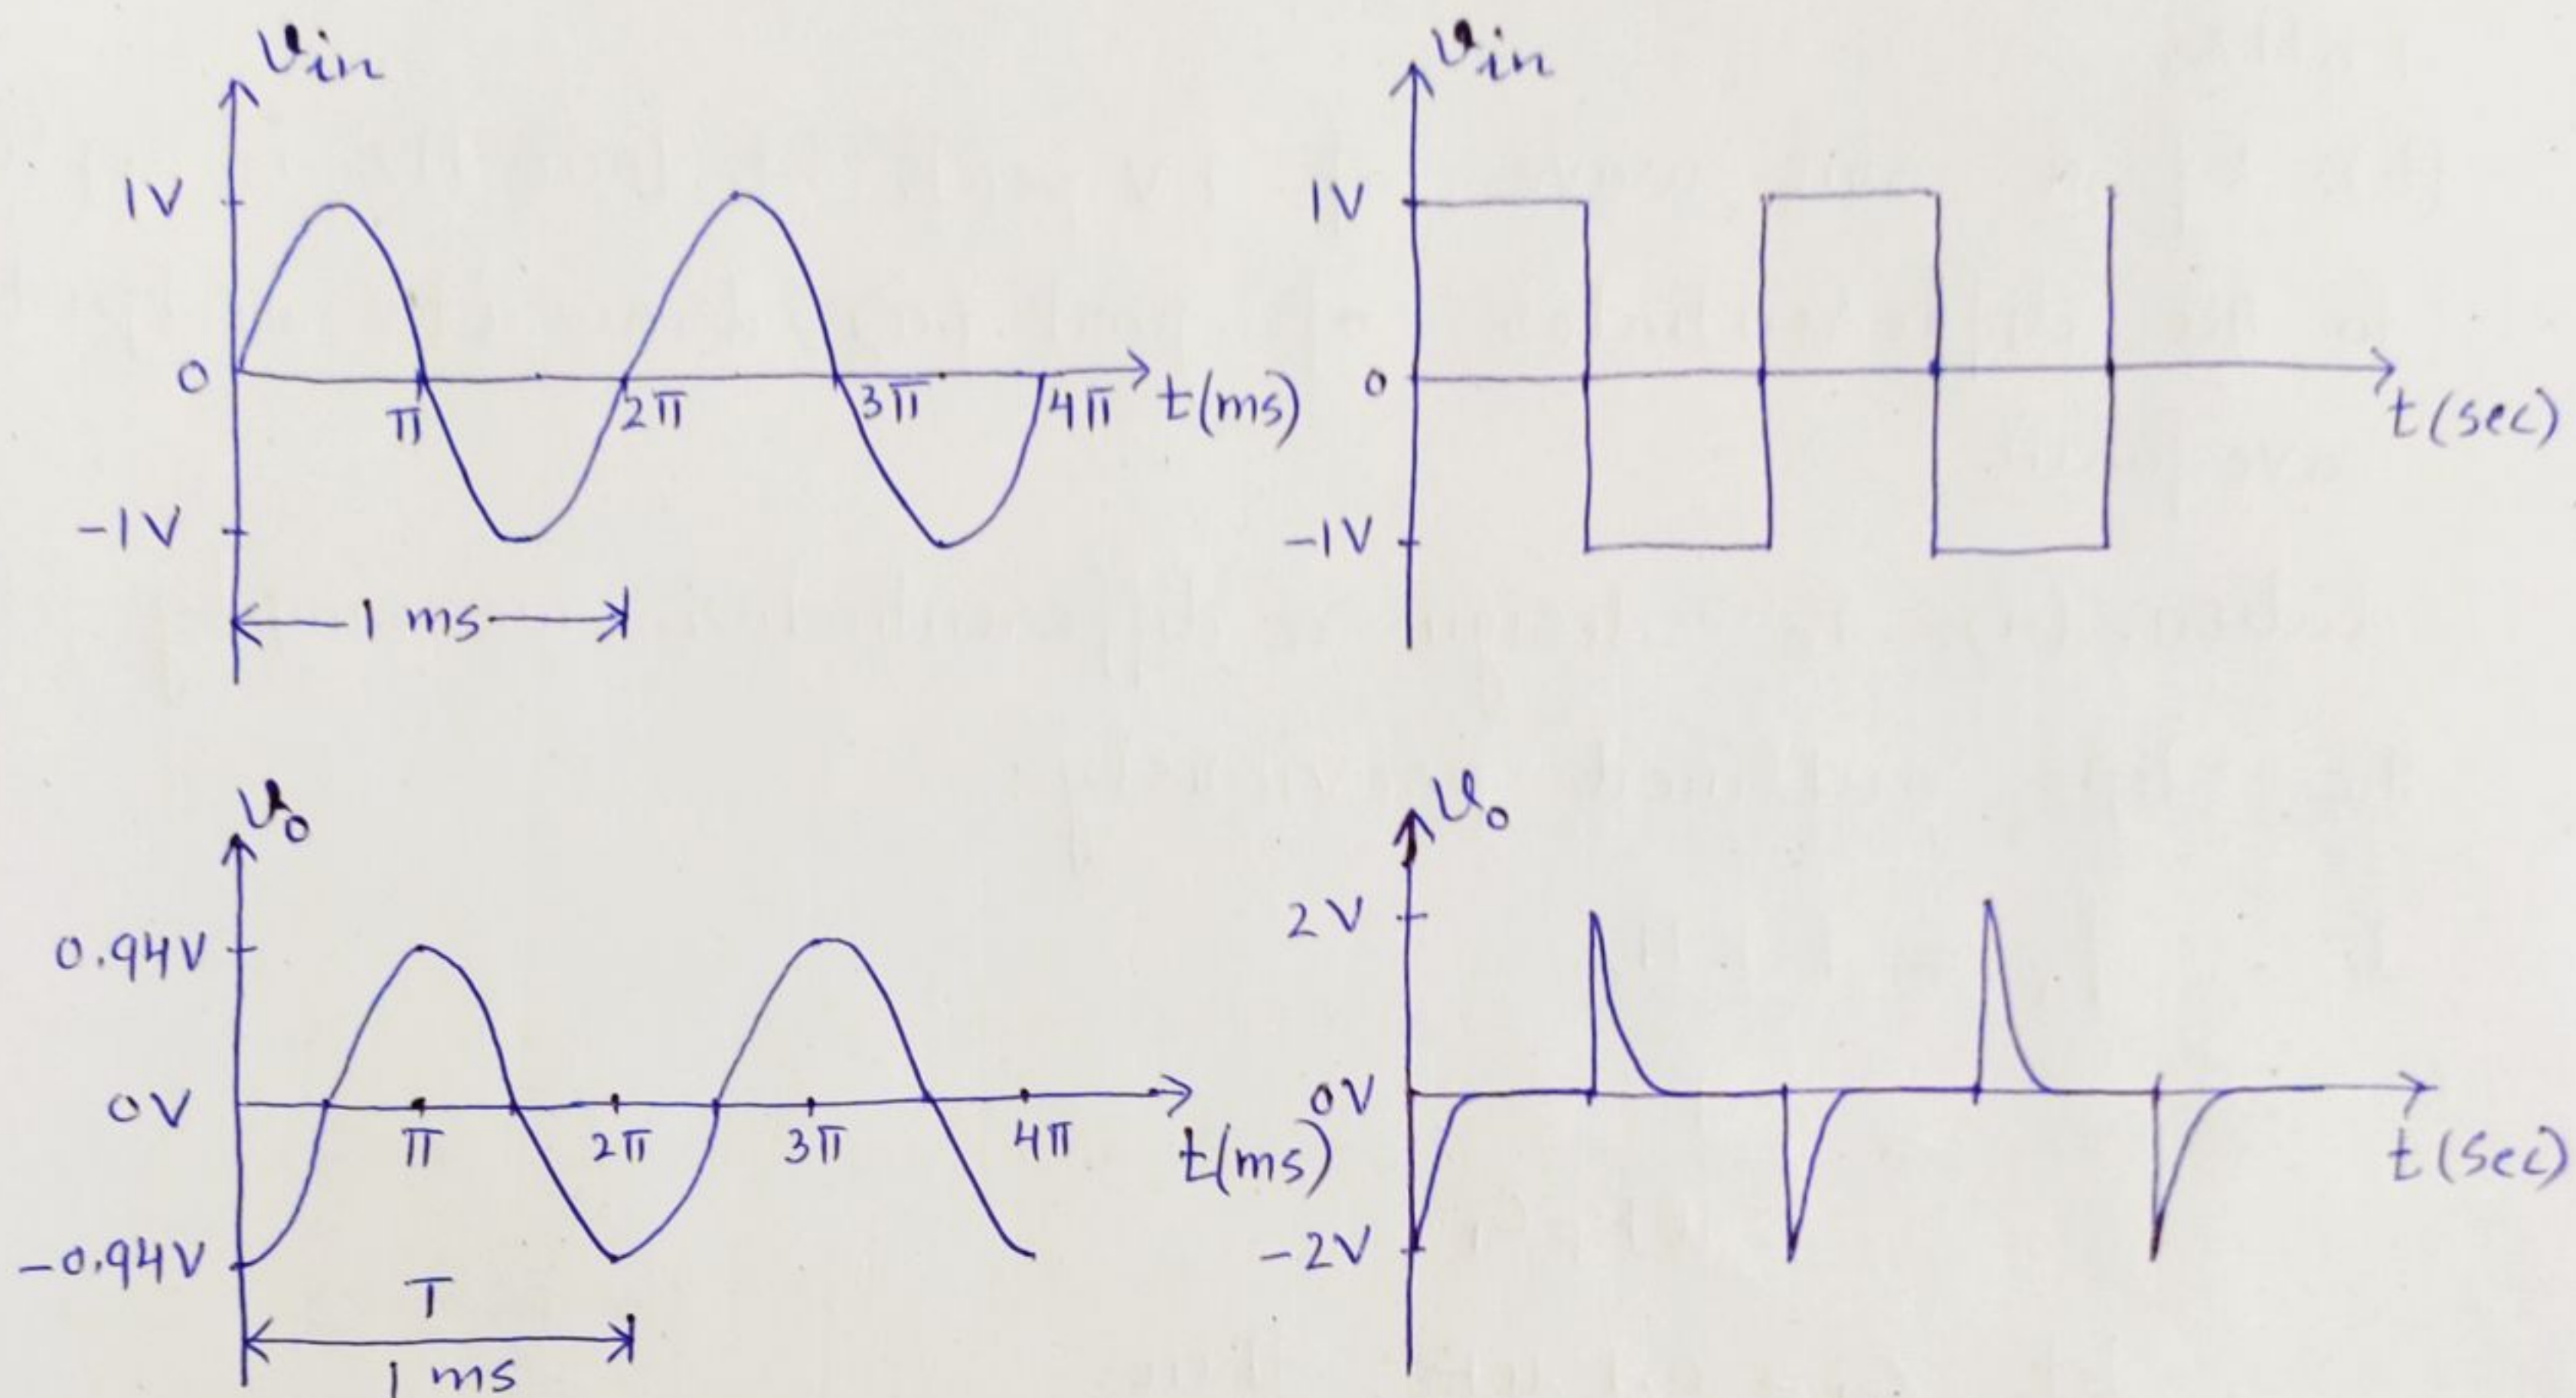

Figure 4. Sine wave and square wave input and resulting cosine wave and spike output respectively.
Figure 4 shows the sine wave and square wave inputs and resulting differentiated outputs, respectively, for the practical differentiator. ⑤
The input and differentiated output waveforms are shown in Figure 4.